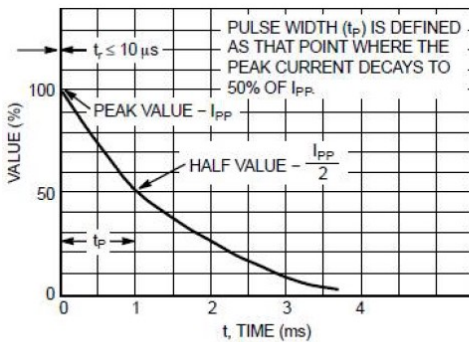
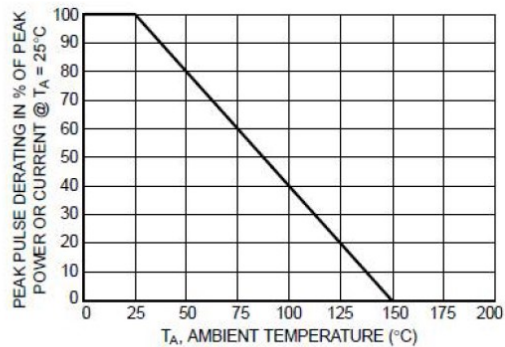

Figure 5. Pulse Waveform
Figure 6. Pulse Derating Curve
- ◆Peak Power 24 or 40 Watts @ 1.0ms(Unidirectional), per Figure 5 Waveform
1.Non-repetitive current pulse per Figure 5 and derate above TA=25℃ per Figure 6;
6. Surge current waveform per Figure 5 and derate Figure 6